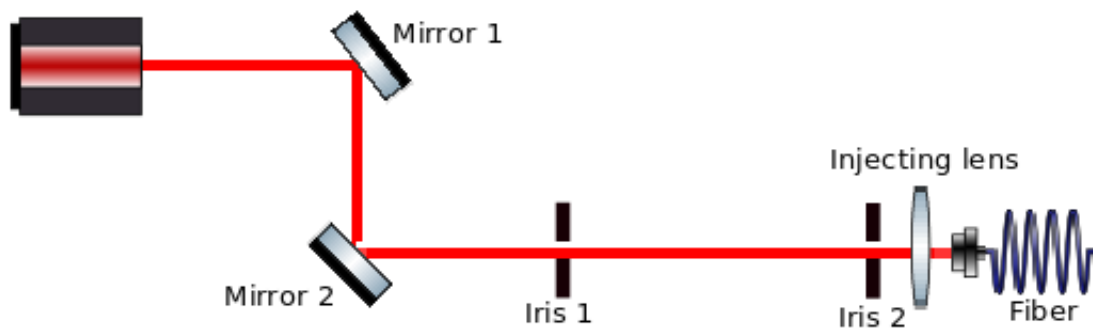

Figure 1 : Setup of mirrors and iris in the optical axis. The injecting lens is placed just before the fiber and after the second iris.
1. Place two mirrors before two iris in the optical axis. (Figure 1)
4. Place the injecting lens and the fiber after the second iris in the optical axis. (Figure 1)